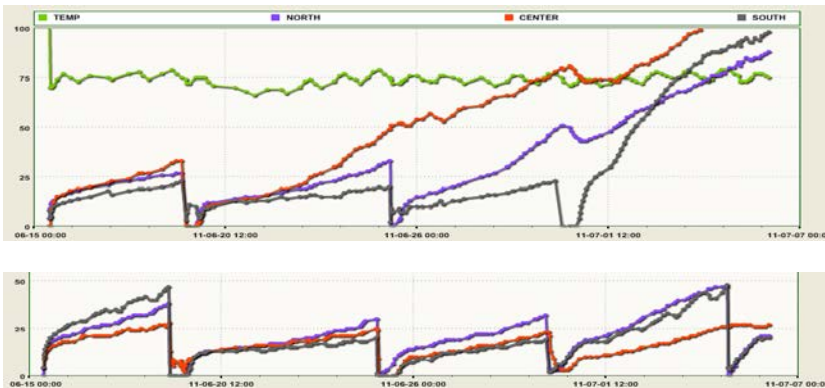

Figure 3. Information from soil moisture sensors
- Strategically placed soil moisture sensors (figure 3)